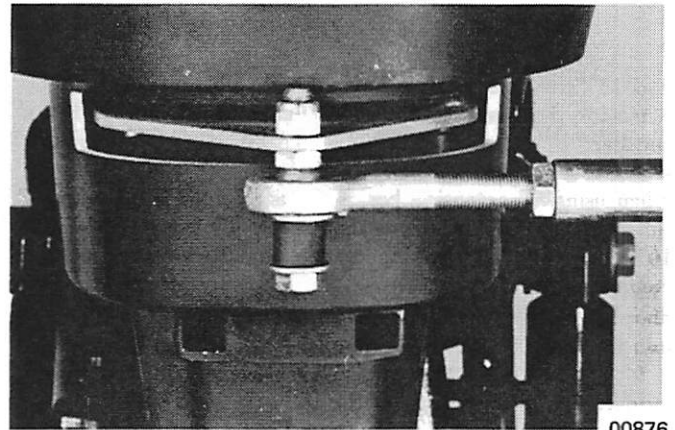

Figure 3. Balljoint and Steering Plate Installed Left (Port) Engine
9. Center engines on transom. Adjust 16" (40.64cm) link rod extension bar to desired width and attach the ball joint assembly on left (port) engine. (Figure 3)